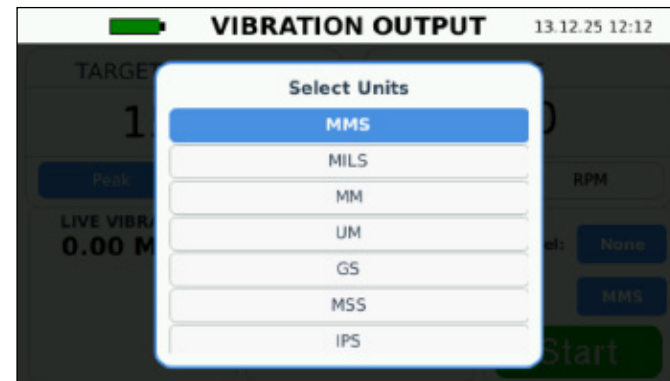

Figure 10
4. Select the **Units button** to set the vibration units to GS, MSS, IPS, MMS, MILS, MM, or UM (Figure 10). The vibration units will be shown for both the live vibration and sensitivity (if the channel is selected).